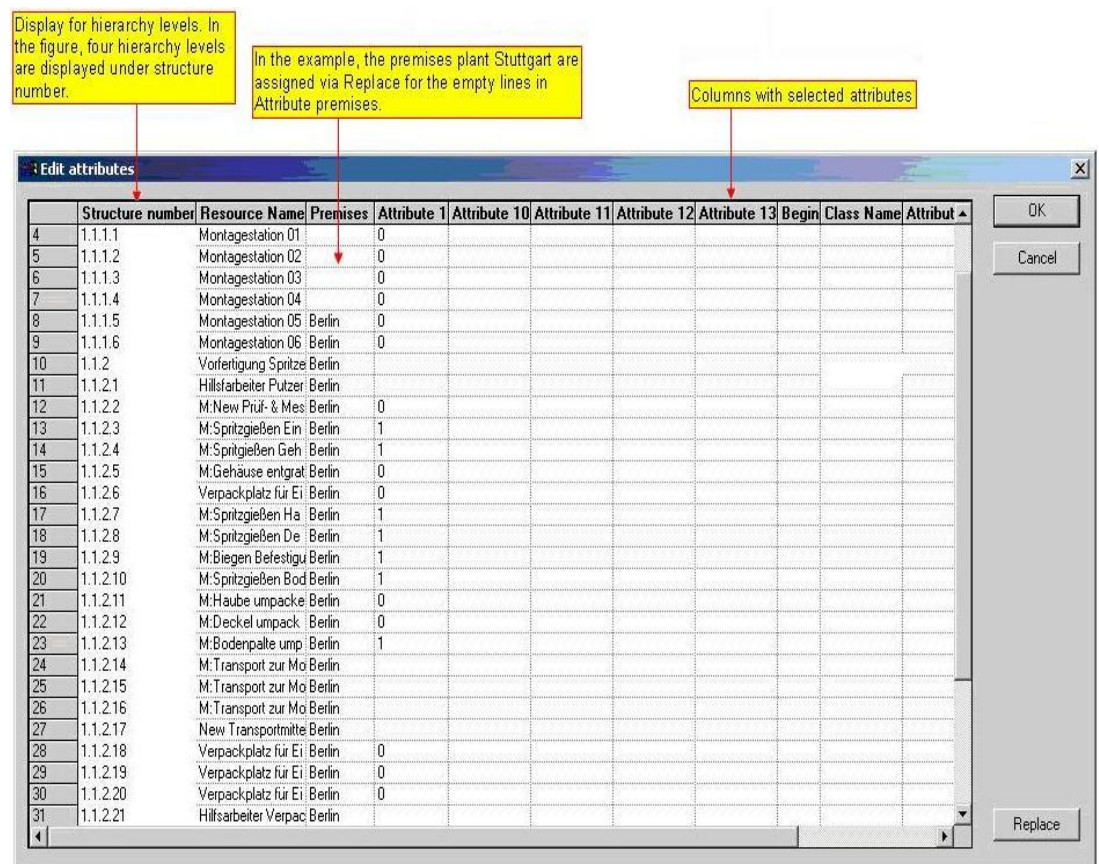

Figure 273: Table with Selected Attributes
- 9) The selected attributes are displayed with hierarchy levels in the table, and you can edit the values in the table. *Please refer to the Figure 273.*
- 1) In order to open the **Change attributes simultaneously** dialog, click **Replace**. Please refer to the Figure 273.